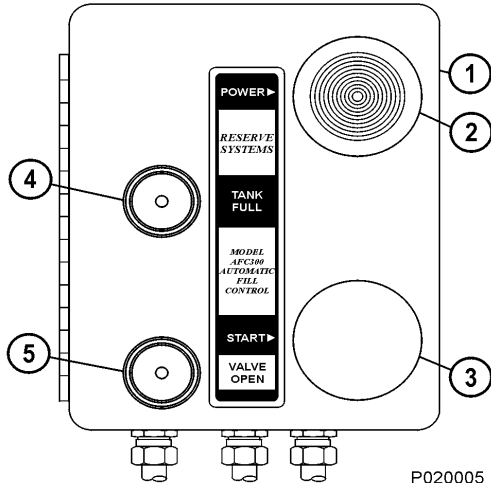

FIGURE 2-3. CONTROL PANEL
2. Pull out on switch (2, Figure 2-3) to turn the system on.
3. Push start switch (3). The VALVE OPEN light (5) should illuminate and the filling process will begin.
4. When tank is full, the VALVE OPEN light will turn off and FULL light (4) will illuminate.
6. Press and hold start switch (3) for a couple of seconds.
8. Push switch (2) in to turn system power OFF.